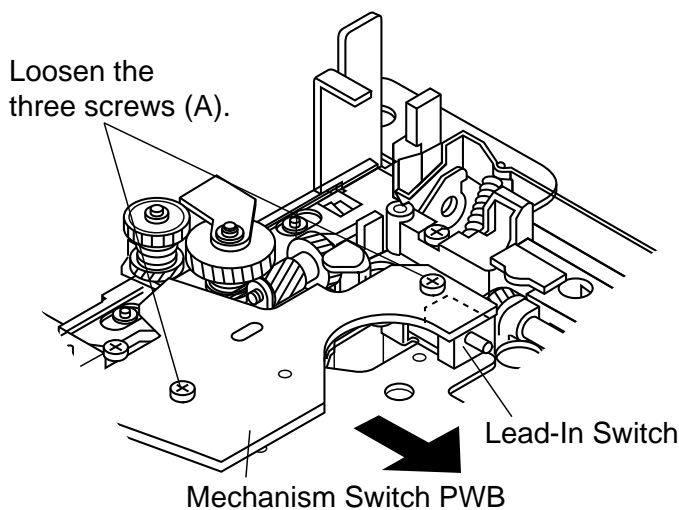

Figure 22
1. Loosen the screw (A) x 2 pcs. which fix the mechanism switch PWB.
After position adjustment fix with the three screws (A). (See Fig. 22.)